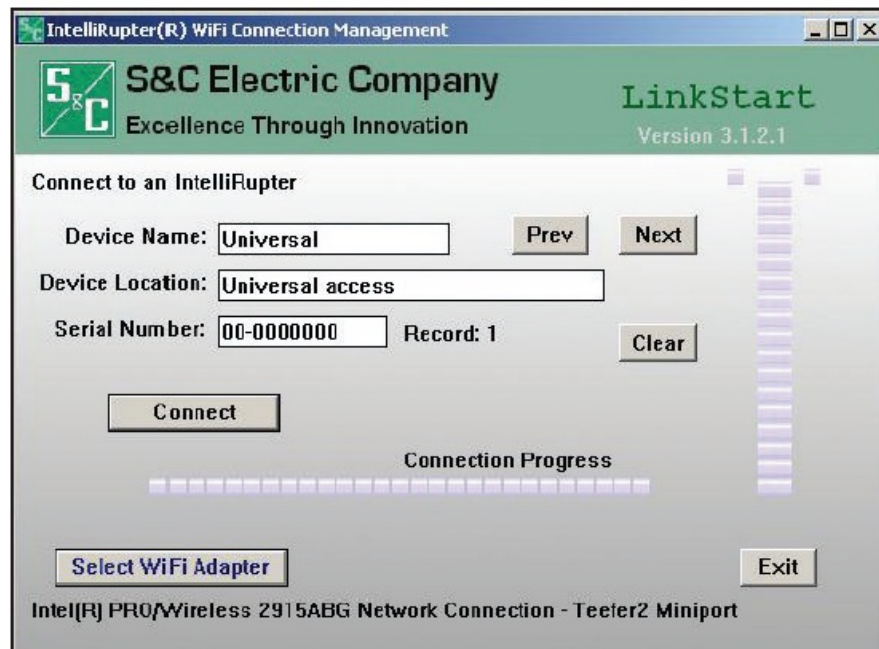

Figure 2. The *LinkStart* connection screen.
- **STEP 1.** Click on the IntelliLink software or LinkStart icon or select Program Start>S&C Electric>LinkStart V3 on the computer. The LinkStart connection screen will appear. See Figure 2.